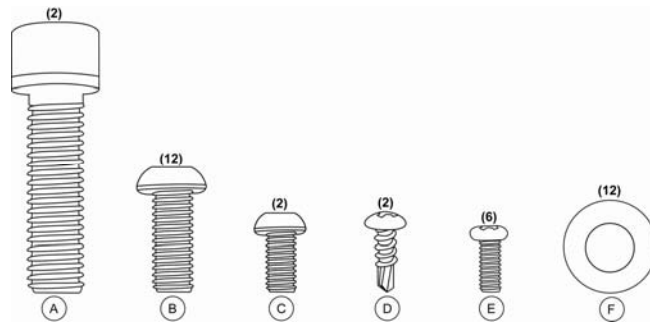
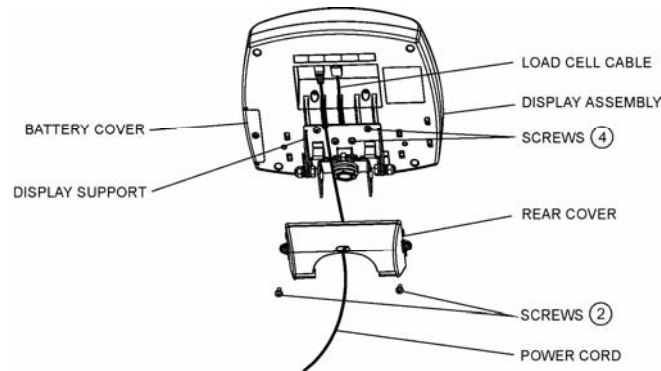

Figure 1
Figure 2
4. Slide the center handrail over the handrail supports on the base and fasten the handrail to the handrail supports using four (4) M8 1.25 x ¾ screws (B), four (4) M8 washers (F) and the medium Allen wrench (see Figure 1). Lightly tighten the screws. **DO NOT OVERTIGHTEN.** Wait to tighten until Step 6.
5. Attach the left / right side handrails to the center handrail and platform using the two (2) M10 1.5 x 1½ screws (A), eight (8) M8 1.25 x ¾ screws (B) with eight (8) M8 washers (F), and lightly tighten.
7. Attach the handle to the back of the center handrail using two (2) medium M6 1.0 x ½ screws (C), and tighten.
13. Rotate the display support 90° then position the Display Assembly close to the Display Support. Plug the load cell cable connector into the load cell port on the rear of the Display then insert and secure the cable into the center channel in the display. See Figure 2, above, for an illustration. **Note:** Do not attach the power cord at this point. Wait until Step 19.
15. Insert four (4) Phillips pan head M4 screws (E) into the metal display support, and tighten (see Figure 1).
16. Attach the Adapter Holder to the center rail using two (2) #8 x ½ (D) sheet metal screws, and tighten.
17. Connect the power adapter to the power port in the display, then insert and secure the cable into the exposed portion of the second channel from the left in the back of the display (see Figure 2, above). Hold the cord in place through the retaining slot on the rear cover and align the large rear cover tabs with the slots on the rear of the display assembly. Apply light pressure to snap the cover into place and secure it with two (2) Phillips pan head M4 screws (E). **Do not plug the scale into a power source until the scale is fully assembled.**